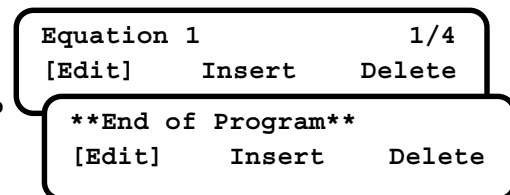

Figure 8-2
When you enter Custom Control programming you see one of the screens in Figure 8-2. (A) in Figure 8-2 shows the active equation number and how many equations exist in the program. (B) in Figure 8-2 is displayed if no equations exist in the database or when you have scrolled past the last equation in the program.